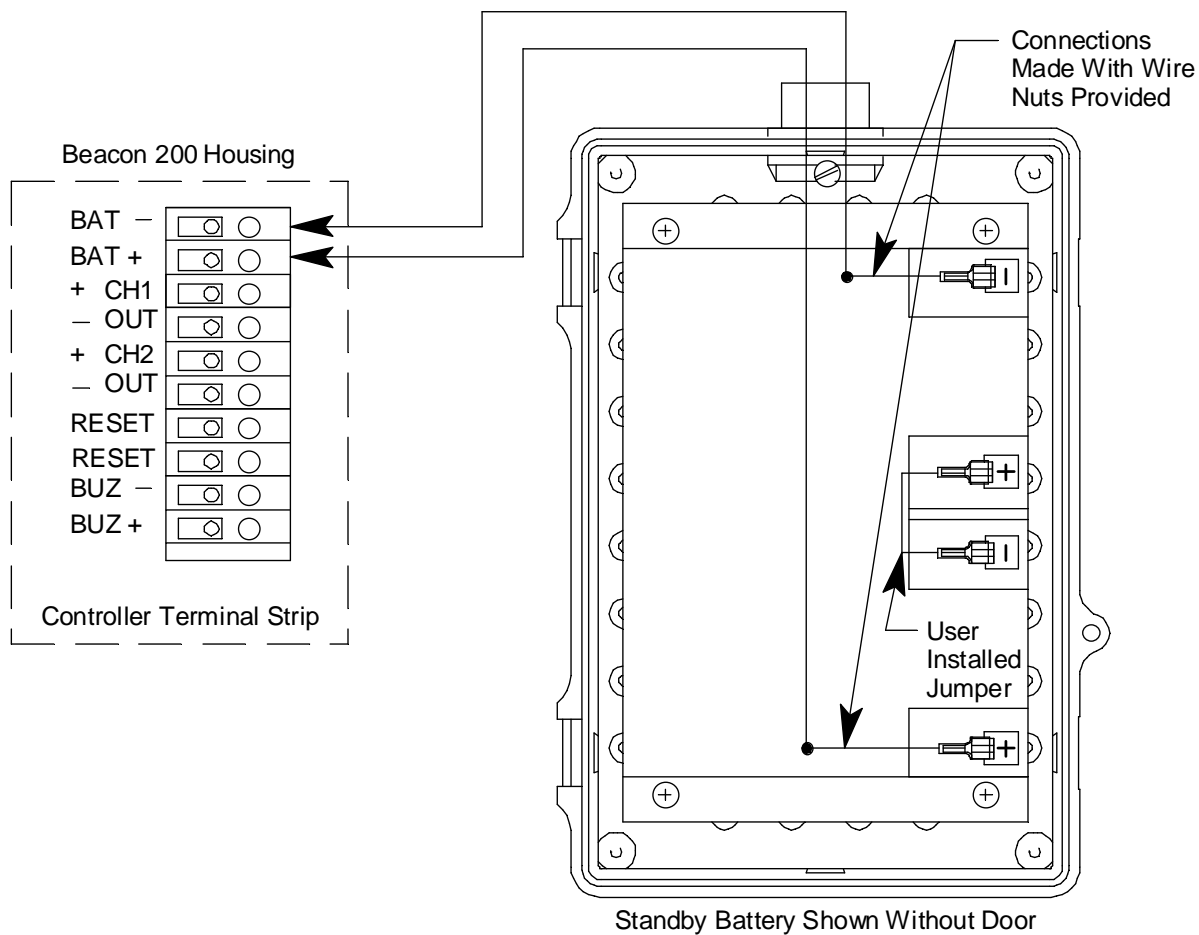
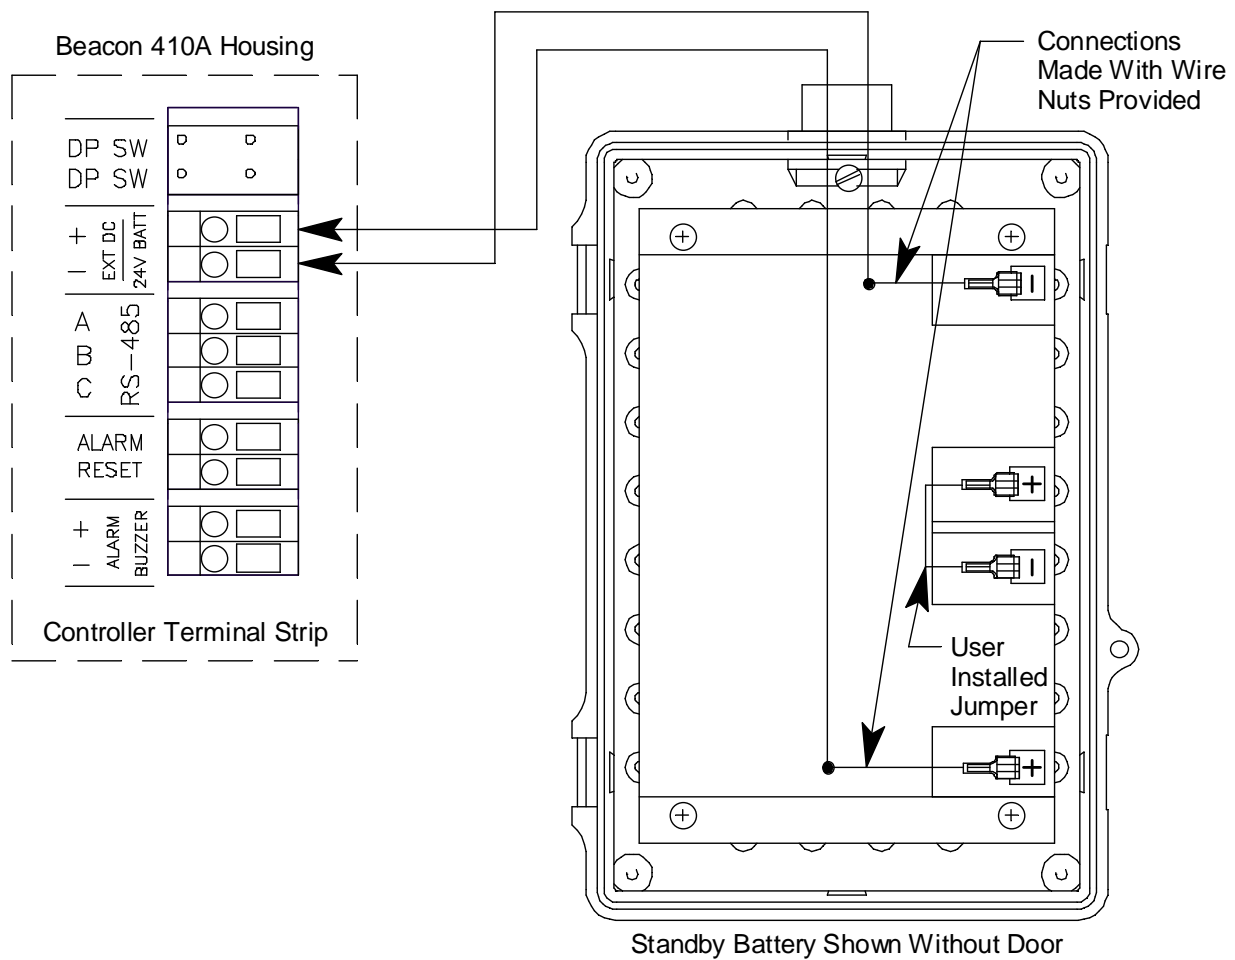
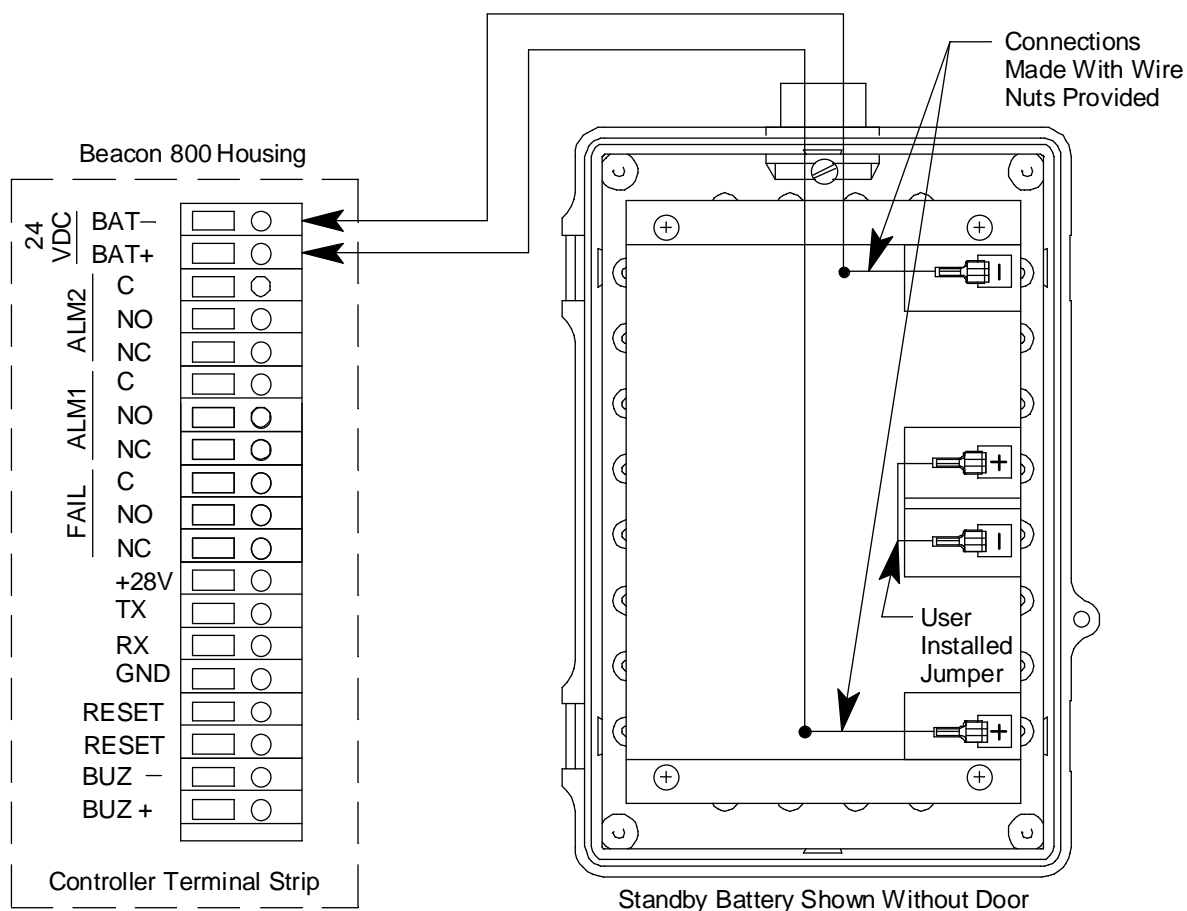

Figure 4: Wiring the Standby Battery to a Beacon 200
Figure 5: Wiring the Standby Battery to a Beacon 410A
Figure 6: Wiring the Standby Battery to a Beacon 800
10. Use the wire nuts provided with the standby battery to connect the positive and negative wires in the standby battery to the positive and negative wires coming from the controller as shown in Figure 4, Figure 5, and Figure 6.
14. Install the positive and negative connections to the appropriate battery terminals (see Figure 4, Figure 5, and Figure 6).
17. When the controller has completed its warm-up sequence, install the jumper wire between the two batteries (see Figure 4, Figure 5, and Figure 6).